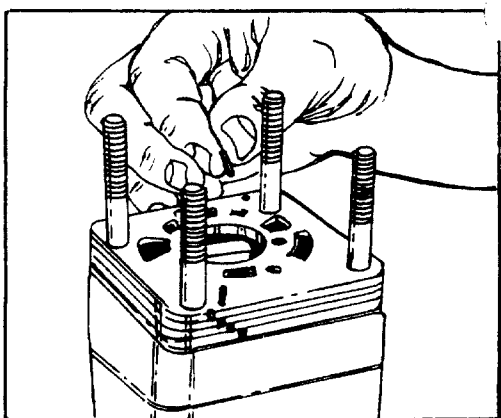

FIGURE 16.
18. Remove the two alignment pins (11) that align the port manifold (8), valve ring (12) and isolation manifold (15). See figure 16.